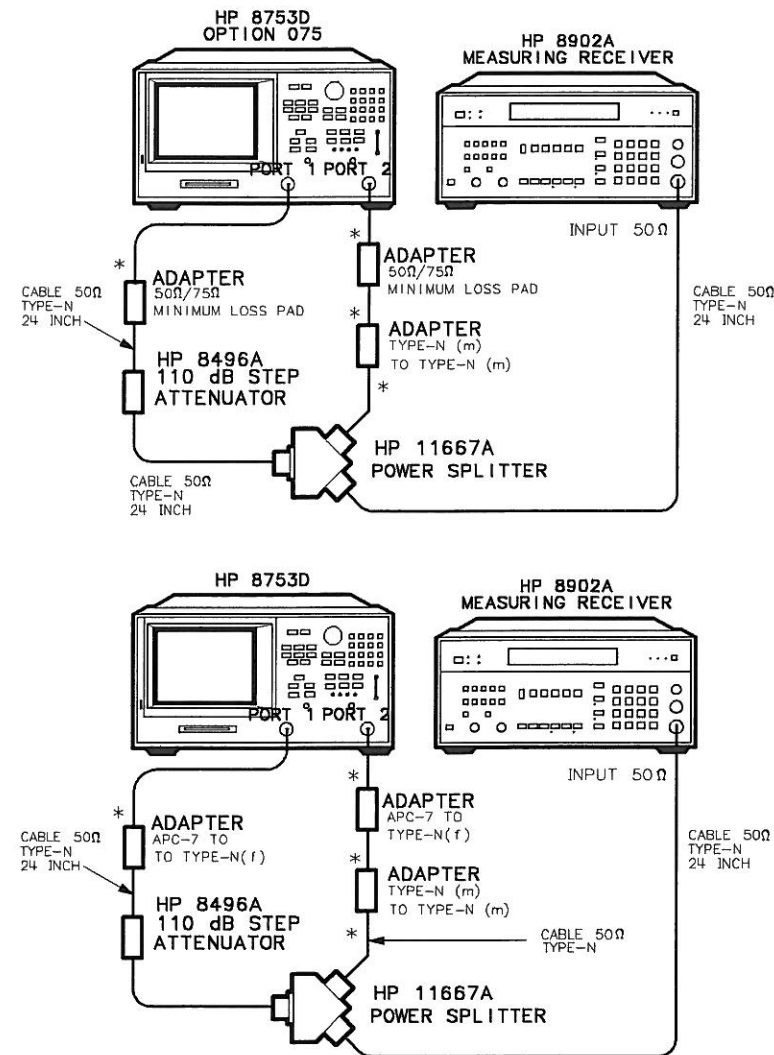

Figure 1-44. Test Port 2 Dynamic Accuracy Test Setup
- Connect the equipment as shown in Figure 1-44.